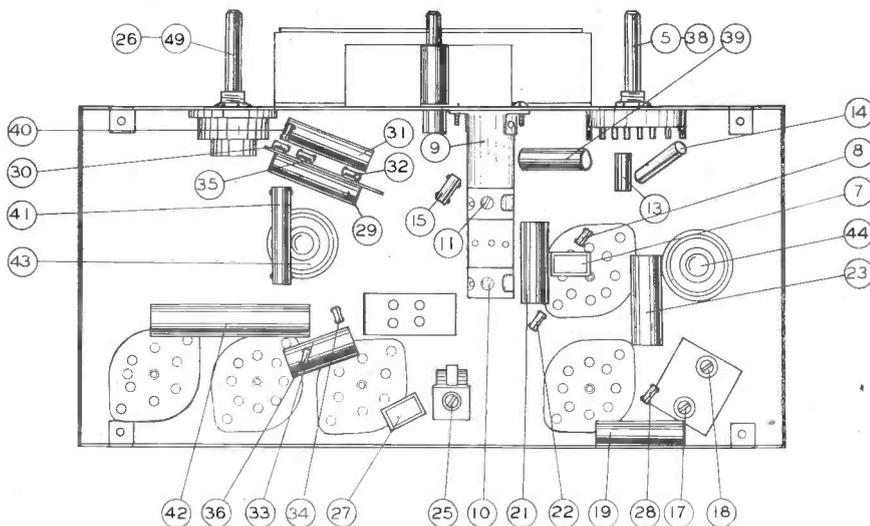

Fig. 3. Bosch 605-605C trimmer locations.
- (A) Connect signal lead of test oscillator to antenna binding post through a 200-mmfd condenser.
- (B) Connect ground lead to ground terminal of chassis.
- (C) Set dial pointer to 1400 kc and range switch on green (No. 2) position.
- (D) Place test oscillator in operation at 455 kc—turn receiver volume control to maximum and high-fidelity control to No. 2 position.
- (E) Attenuate test oscillator output so that a fairly strong signal is applied, and tune filter condenser (A22) Fig. 3, so that the output meter indicates a minimum reading.
(D) Tune acoustic filter condenser (A23), Fig. 3, until a *minimum* output is indicated on the output meter.